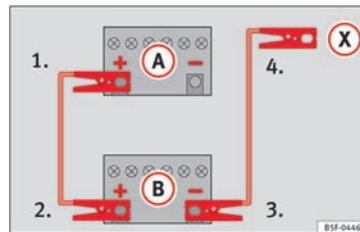

Fig. 77 Diagram of connections for vehicles without Start Stop system
2. Connect one end of the *red* jump lead to the positive (+) terminal of the vehicle with the flat battery (A) »» Fig. 77.
3. Connect the other end of the *red* jump lead to the positive terminal (+) in the vehicle providing assistance (B).
4. For vehicles without Start-Stop system: connect one end of the *black* jump lead to the negative terminal (-) of the vehicle providing the current (B) »» Fig. 77.